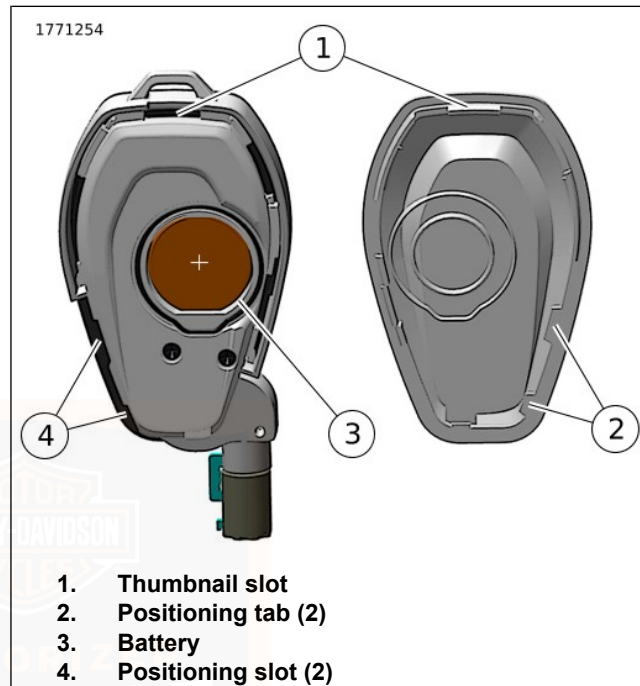

Figure 24. Fob Battery
- a. See Figure 24. Insert blade of a 3/16-inch flathead screwdriver in the thumbnail slot (1)
- a. Carefully insert the blade of a 1/8-inch flathead screwdriver under the battery (3) and lift.
- a. Align the positioning tabs (2) with the positioning slots (4).